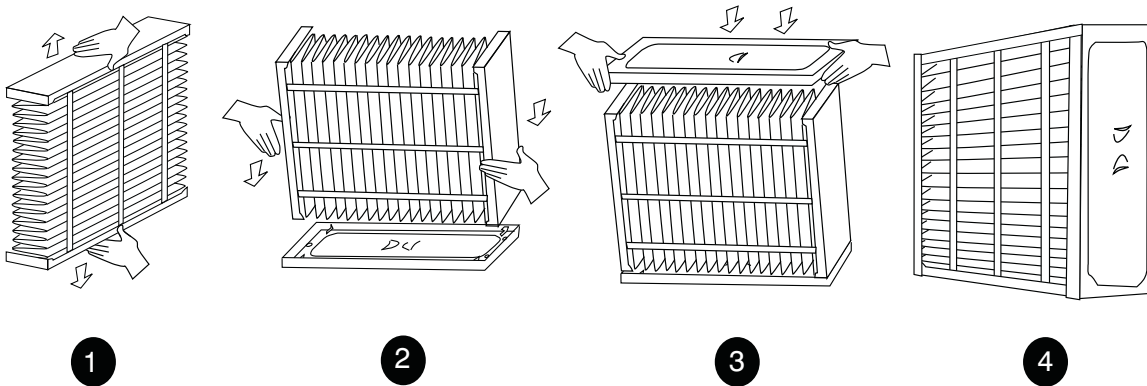

Fig. 8 - EZ-Flex Filter Assembly
7. Remove Filter from box, assemble then place in cabinet. See Fig. 8.
4. Remove new filter from box and assemble. See Fig.8.